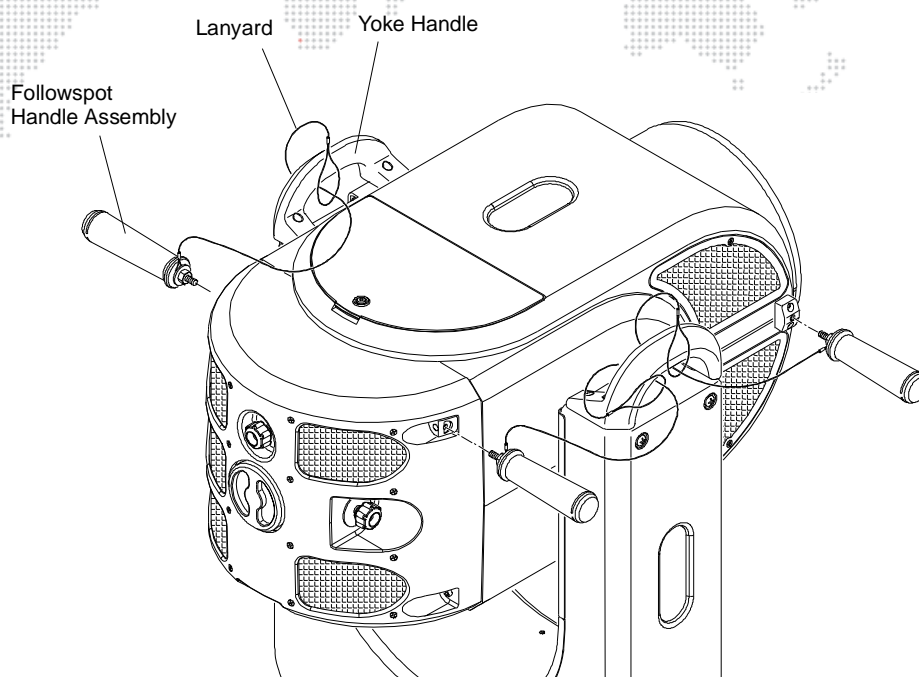

Figure 2-19: Installing Manual Followspot Handles - Step 2
Step 3. For each Handle Assembly, feed Lanyard through yoke handle, then feed Handle through loop as shown in **Figure 2-19**.